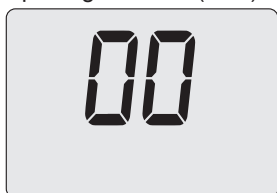

Figure 9.22
- By using buttons 15 or 16 (Figure 9.18) it is possible to modify the value of parameter A01 (Figure 9.22).